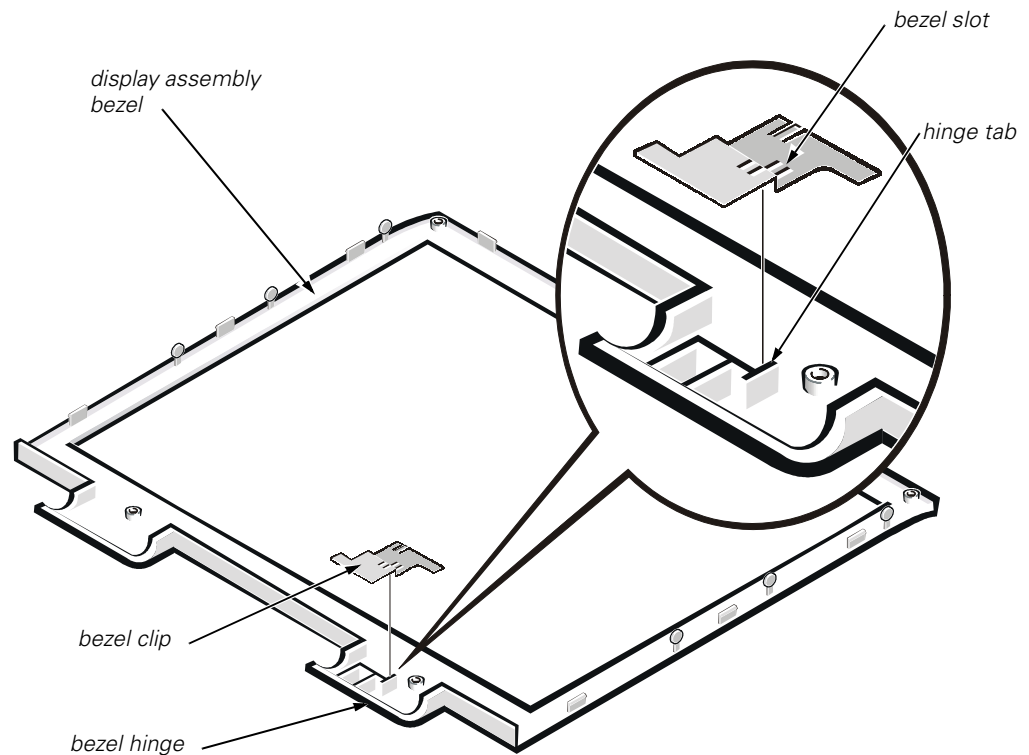

Figure 15. Display Assembly Bezel (bottom view)
2. If your replacement LCD panel is a *Samsung* — Install the display bezel clip (if one is not present) by placing the bezel slot over the hinge tab and pressing gently until it snaps (see Figure 15).
If your replacement LCD panel is an *IBM/Hitachi* — Remove the display bezel clip (if present) by gently prying it up with a small-blade screwdriver (see Figure 15).